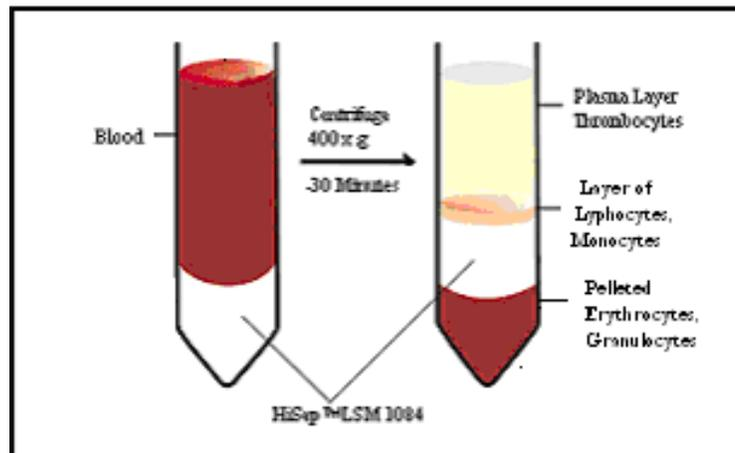

Fig. 1
3. Centrifuge the tube at 400 x g for 30 minutes at room temperature (15-25°C). Do not centrifuge at lower temperatures like 4°C, as it may result in cell clumping or poor recovery. The brake of the centrifuge should always be in the off position. Centrifugation should sediment erythrocytes and polynuclear leukocytes and band mononuclear lymphocytes above HiSep™ LSM 1084 as shown in Fig. 1.